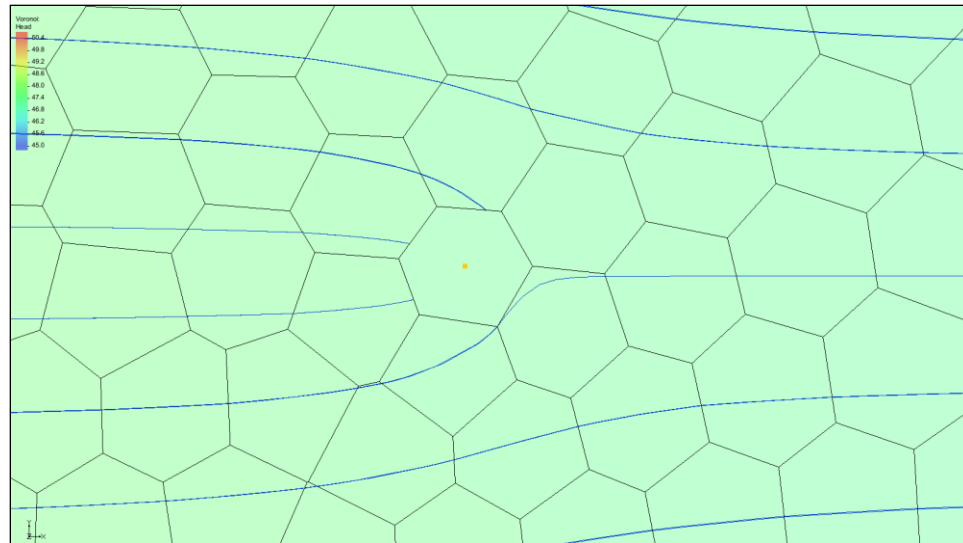

Figure 10 Forward tracking pathlines around the well
2. **Zoom**  in on the well (Figure 10).